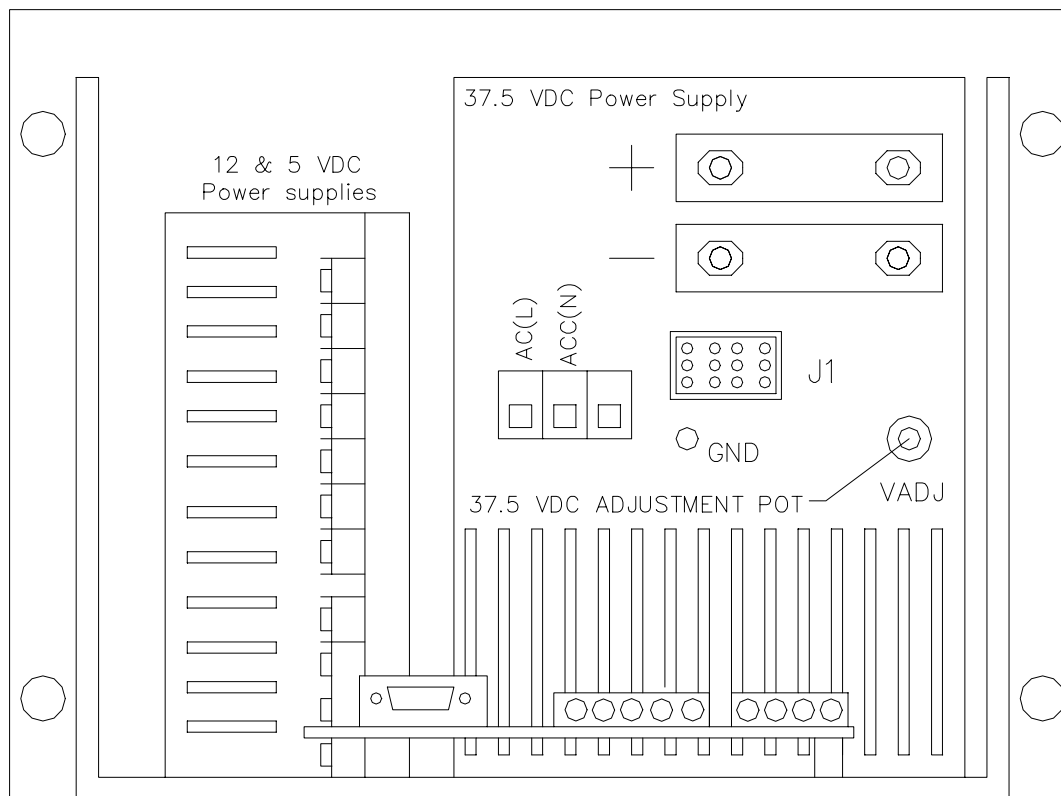

Figure 6-25 PA Power Supply Rear Panel
12. Use a DVM to measure the voltage at the terminals of the 40 VDC subsidiary power supply; the voltage should be 37.5 VDC. If the voltage is out of specification, use a small, flat-blade screwdriver to adjust the trim potentiometer (pot) on the back of the 40 VDC supply. Refer to Figure 6-25 for location of the voltage adjustment trim pot.